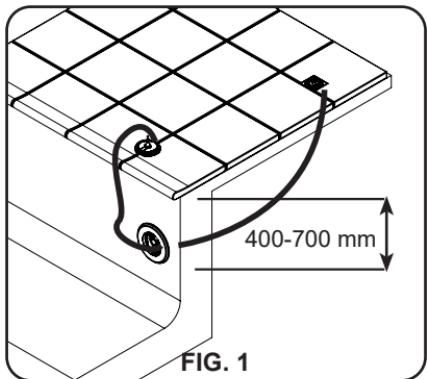

FIG. 1
- To avoid the need to empty the pool to change the lamp, we recommend that the floodlamp be installed in areas which are accessible from the upper edge of the pool, at approximately 400-700 mm from the water surface (Fig. 1).